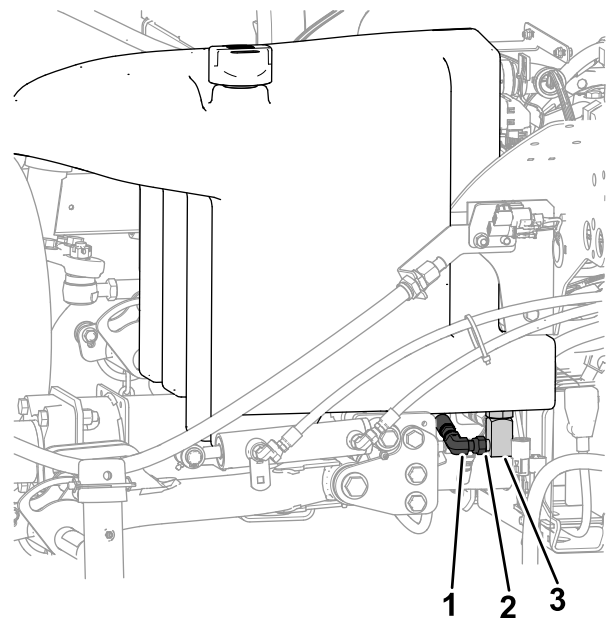

Figure 146
2. Place a large drain pan under the manifold (Figure 146) on the bottom the hydraulic tank; refer to Checking the Hydraulic-Fluid Level \(page 81\).